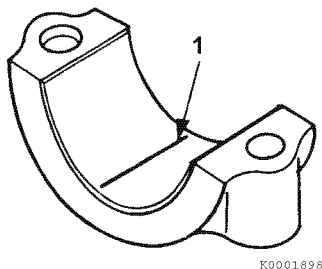

Figure 6-108
- 2- Place a piece of PLASTIGAGE (1, **Figure 6-108**) along the full width of each bearing insert.